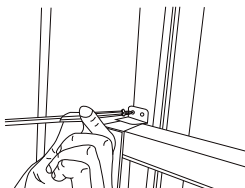

Fig.9
C. To secure lower sash in place, attach right angle sash lock with 3/4" (19 mm) or 1/2" (12.7 mm) screw as shown (Fig.9).